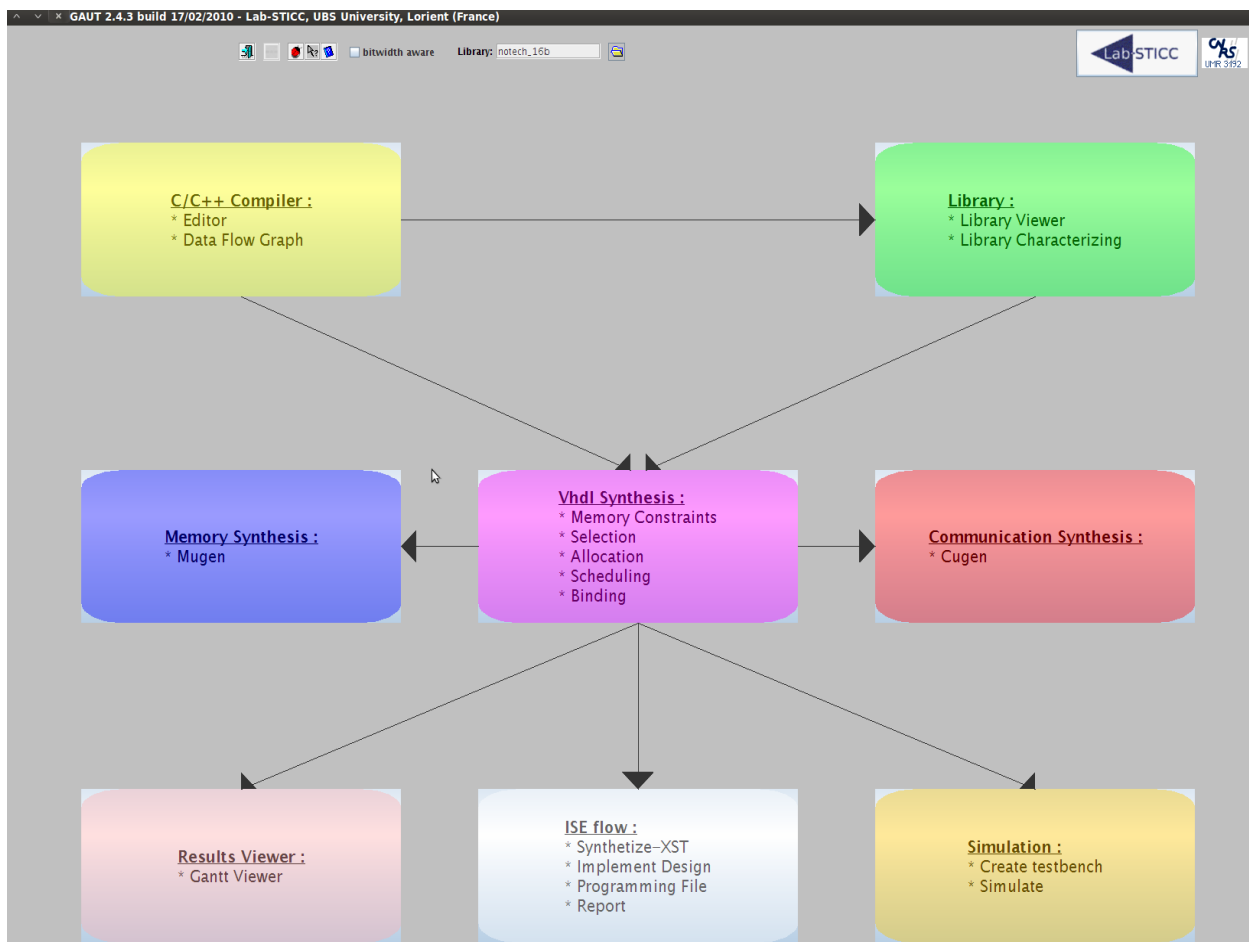

Figure 7 : G.A.U.T. Main Window
Figure 7 shows the main interface of the tool with eight colored boxes. Every box has a specific purpose and will be described briefly later.
- Click on the  button and you will come back to the main window as shown in the Figure 7.